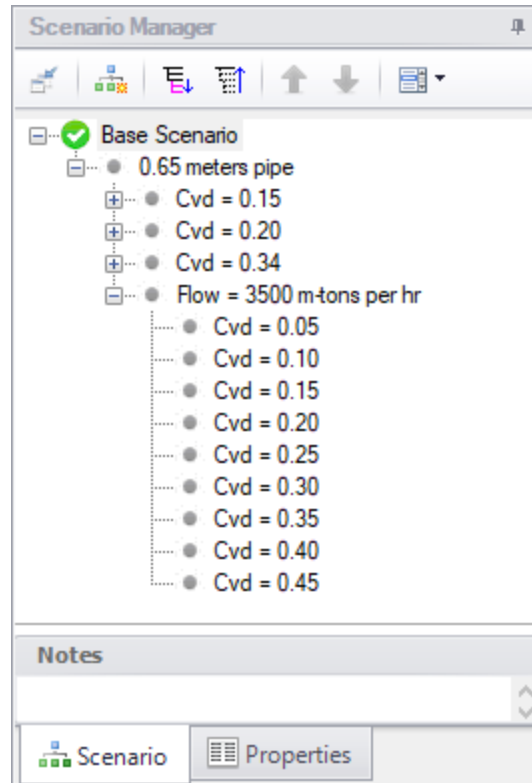

Figure 8: The Scenario Manager on the Quick Access Panel can be used to set up multiple solid concentration cases for a given throughput
2. Under the *Flow = 3500 m-ton per hr* scenario, create scenarios for a range of solids concentrations, as shown in Figure 8. Load each of these scenarios and set the solids concentration value in the Slurry Definition panel in Analysis Setup to the corresponding solids concentration value for each scenario.